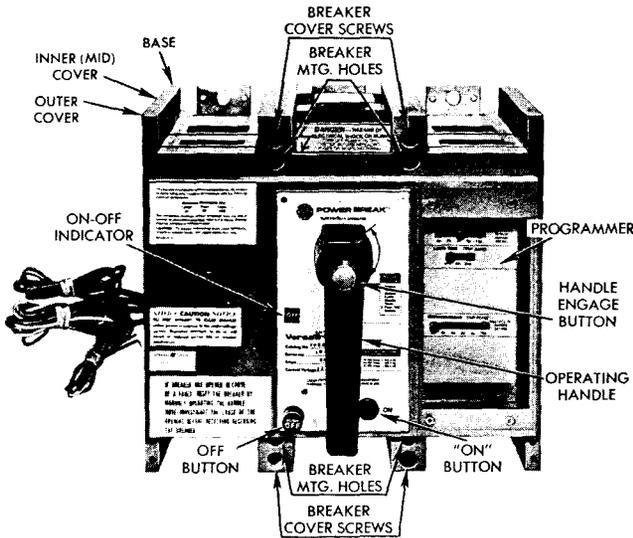

FIG. 18. 800A FRAME ELECTRICAL BREAKER
### a. Outer Cover Removal.—See Fig. 18 or 19.
3. Remove four outer cover mounting screws (Fig. 18 & 19).
- d. 1600A-2000A Frames only—Replace two (2) inner cover mounting screws. See Fig. 18. Tighten to 50-60 inch-pounds torque.